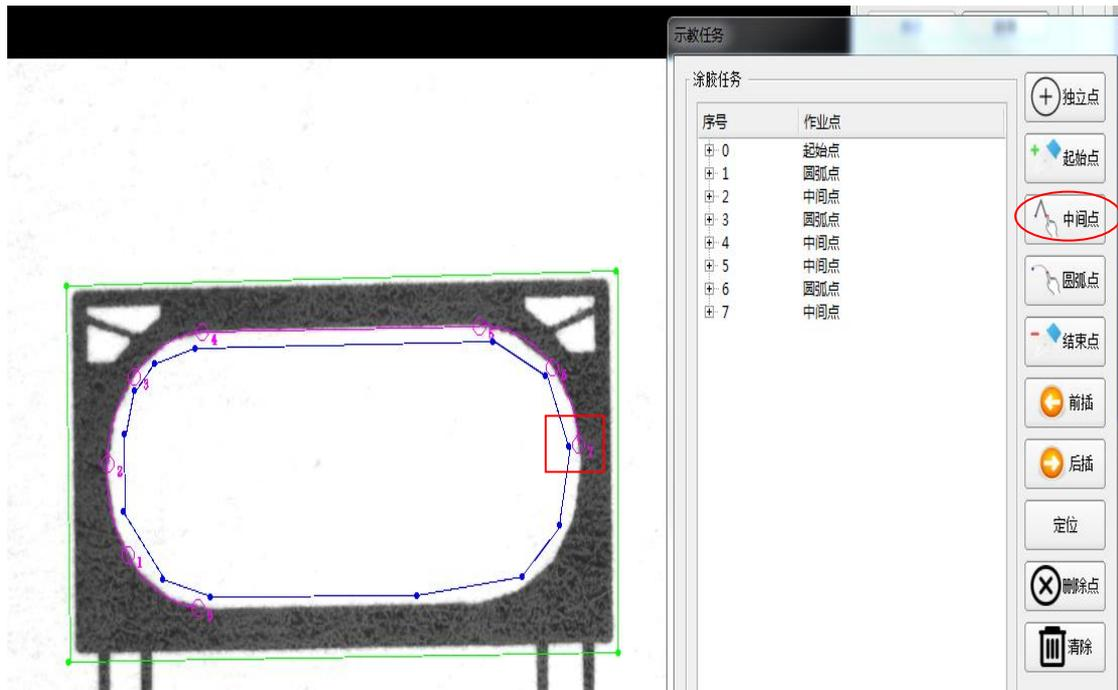

Figure 36 Middle point adding
8) Add the middle point on the position of 90 degree of the arc line, as shown in figure 36;